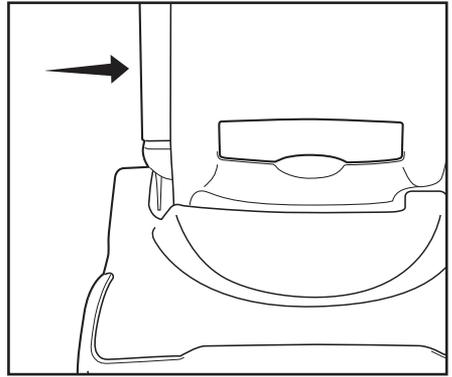

Fig. 1
- The post filter is located on the side of the vacuum (Fig. 1).